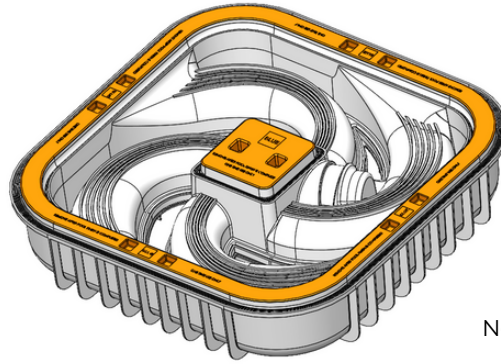

Figure 6
- b. Orange Covers:** Make sure orange covers are installed. (See Figure 6).
- b. Reinstall Orange Covers:** Ensure the provided orange plastic cover is in place around the outer channel and the center to prevent shotcrete or gunitite from entering the drain during application. (See Figure 6).